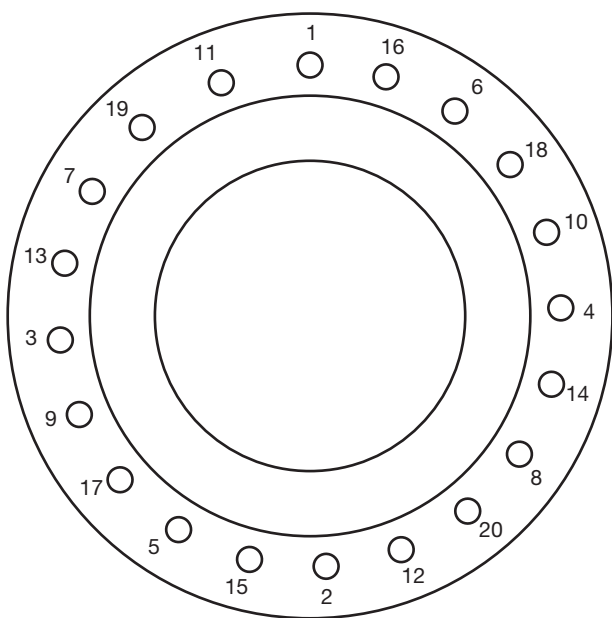

Figure 18a: 20 Bolt Sequence
3. Install the Disc Spring Ring (57) and Spring (56) on the disc.
4. Install a new Gasket (18) in the groove provided on the top of the guide.
5. Using slings through the eyebolts, lower the Main Bonnet (19) onto the base.
6. Install all Stud Nuts (23) and draw down bonnet evenly. Tighten securely all bonnet stud nuts. See Figures 18a and 18b with Table 6 for torque values.